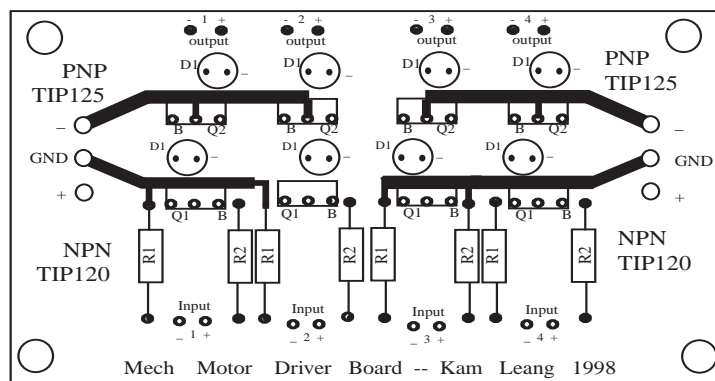
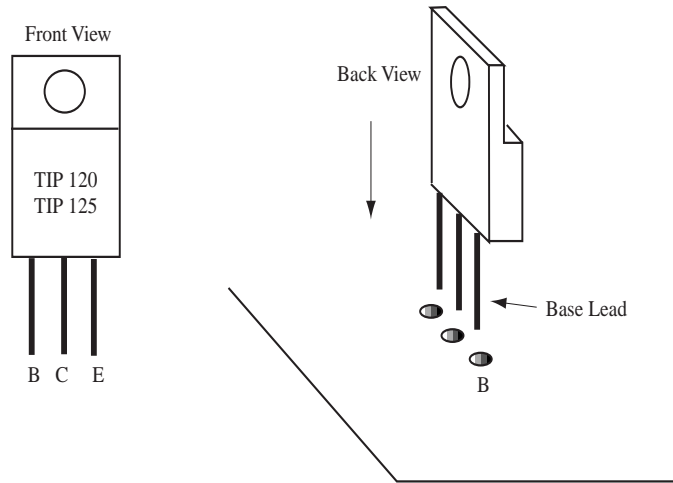

Figure 3: The Mech Motor Driver printed circuit board.
Figure 5: Positioning the Darlington power transistor in the circuit board.
The layout of each circuit is as follows (Figure 3). All of the components for one circuit lies between “*Input 1*” and “*Output 1*”, “*Input 2*” and “*Output 2*”, etc., which is shown in Figure 3. *Input 1* is the input signal (from the Handy Board) to the circuit and *Output 1* is the output signal from the motor driver circuit, similarly for *Input 2* and *Output 2*, etc. The circuits *Input 1* and *Input 2* are powered by the left most power supply inputs (+, -, *GND*) and the circuits *Input 3* and *Input 4* are powered by the right most power supply inputs (+, -, *GND*).
Follow the instructions below to assemble the Mech Motor Driver Board. The order of instructions presented was determined to be the easiest approach to assembling the board. Refer to Figure 3 for component placement.
2. Solder resistors R1 ($1k\Omega$) and R2 (510Ω) in the proper location (see Figure 3). Be conservative with the solder. The board traces and plated through holes do not require much solder to hold the resistors or other components in place. Too much solder can create “short circuits” between adjacent holes or traces. Be very careful not to accidentally solder over other holes! If this happens, use solder wick to remove the excess solder.
4. Next, solder Q1 (TIP120) as shown below in Figure 5 (also refer to Figure 3 for transistor placement). Notice the “B” marking on the circuit board and how Q1 should be placed. Arrange the transistor such that the “base” lead fits into this hole.
5. Solder Q2 (TIP125) in the same manner as Q1. Refer to the previous step and Figure 3 and 5. Again, Q2 can only be positioned one way to fit the hole with the “B” marking.